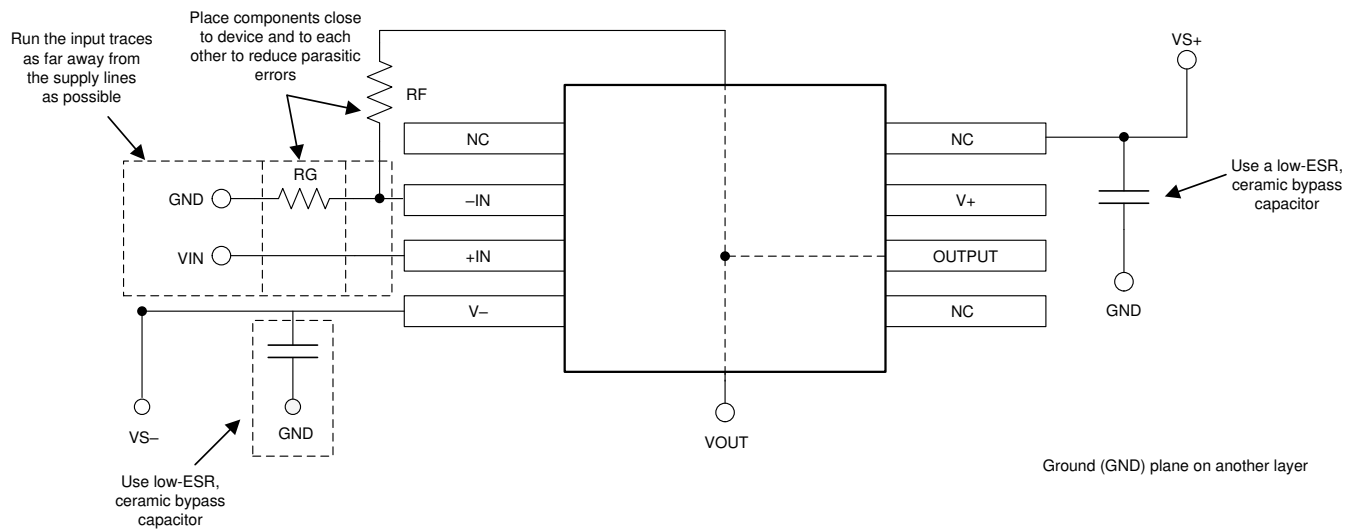

Figure 8-4. Operational Amplifier Board Layout for Noninverting Configuration
- Place the external components as close to the device as possible. As illustrated in Figure 8-4, keeping RF and RG close to the inverting input minimizes parasitic capacitance.